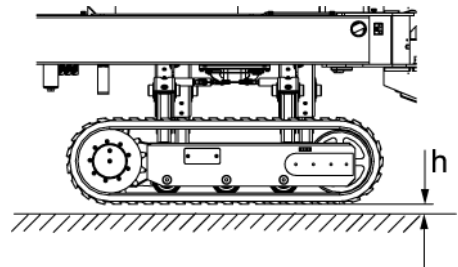

Fig. 143: Removing the load from the crawler chassis
3. ➔ Raise the machine using the outriggers so that the crawler chassis is relieved of its load (Fig. 143/h = max. 20 mm) (↪ Chapter 6.8 'Putting machine in work position' on page 98).